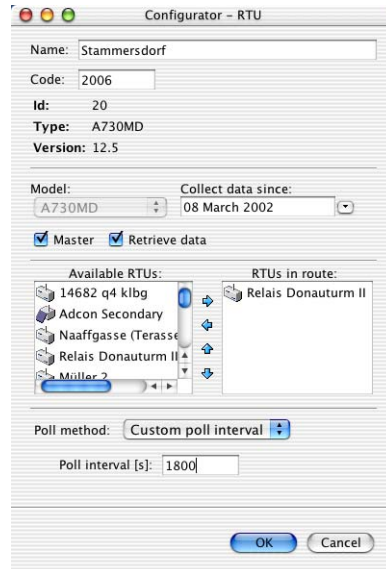

Figure 13. Adding a new A733 RTU
1. Click **Add** in the **RTUs** section of the Configurator window to display the window shown in Figure 13.